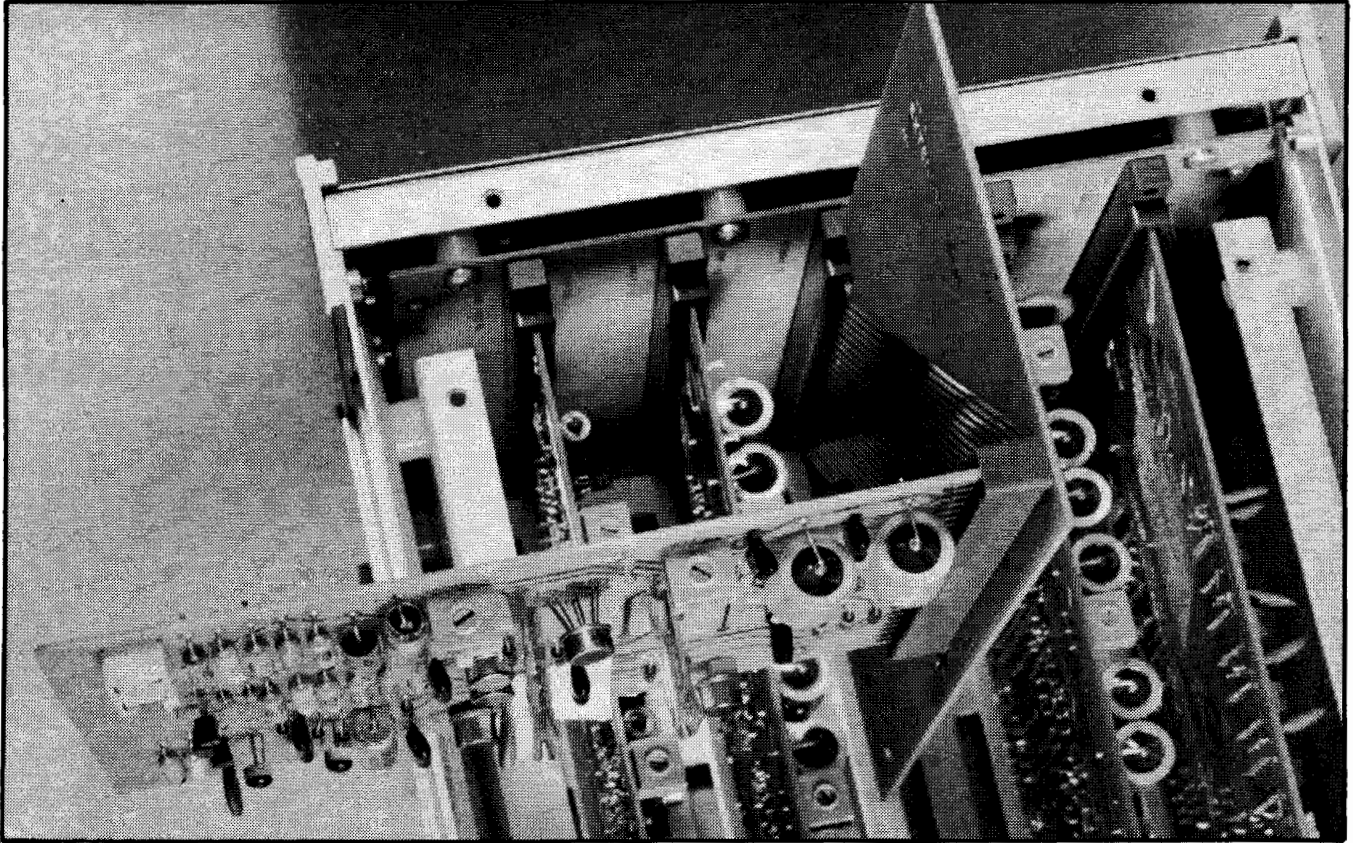

Figure 6-2. EXTENDER CARD INSTALLATION
- 6-4. To install a printed circuit board on the Extender Card as shown in Figure 6-2, proceed as follows:
- c. Install the Extender Card in the Mother Board connector as shown in Figure 6-2.
- d. Install the printed circuit board in the Extender Card connector as shown in Figure 6-2.